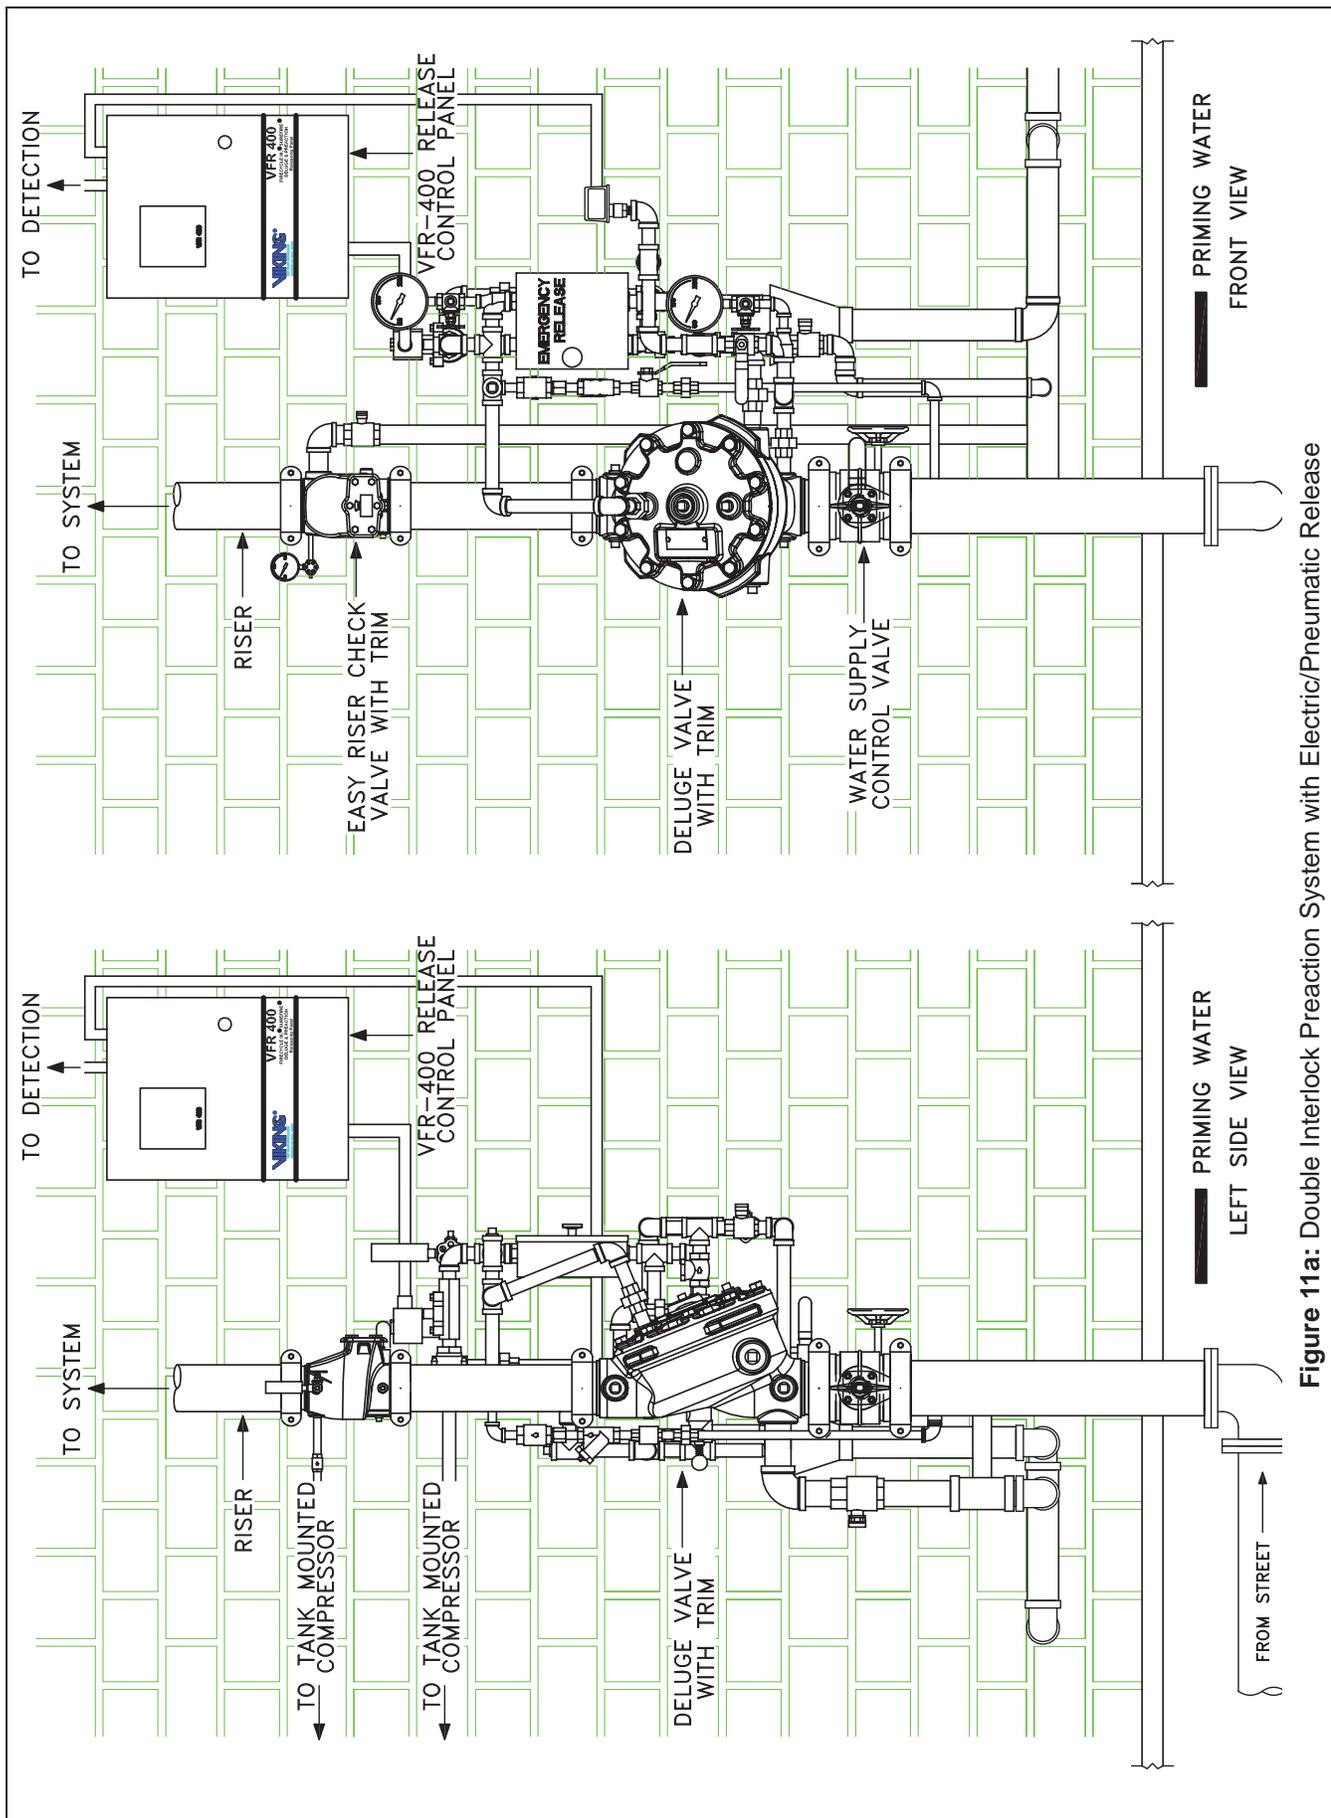

Figure 11a: Double Interlock Preaction System with Electric/Pneumatic Release
B. Double-Interlocked Preaction System (Figures 11a-13c)
Refer to Figure 11a and 11b. This system uses the same electrical detection system as previously discussed. The operation of an electric detection system depends on the activation of a detector, which signals the release control panel to open a solenoid valve and activate an electric alarm. However, the system will not trip unless a sprinkler fuses, releasing the air pressure on the pneumatic actuator, allowing it to open, relieving the release line pressure. When that happens, the deluge valve opens (Figure 11c).